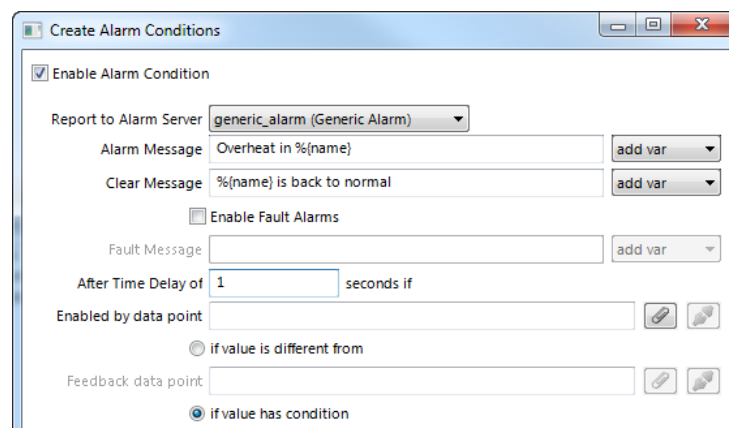

Figure 54: Common settings for an alarm condition.
3. For the alarm condition edit the following definitions, which apply to all condition types as shown in Figure 54. Select the **Alarm Server** which the alarm shall be reported to. Typically, you will choose a generic alarm server.
4. Enter an **Alarm Message**. This is shown when the alarm becomes active. You may add variable placeholders to this message by selecting one from the drop-down box **add var** on the right-hand side. Enter a **Clear Message**. This is shown when the alarm clears. For analog alarms, the alarm message is split into a low-limit (LO) message and a high-limit (HI) message, respectively.